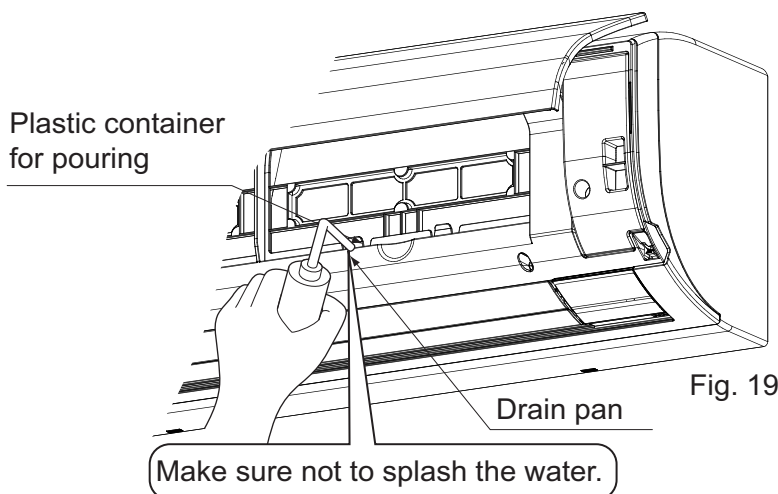

Fig. 19
- After drain work is complete, perform a drain check by opening the front panel, **removing the air filter**, pouring water into the drain pan, and making sure water flows smoothly out of the drain hose. **(Refer to Fig. 19)**